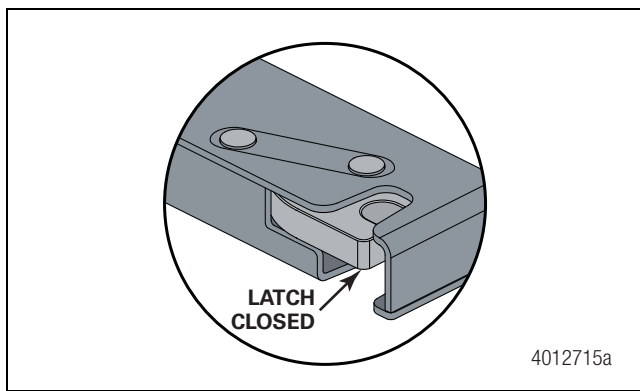

Figure 10
2. Ensure there is adequate clearance for the Rear Aero Auto Deployment panels, if installed. Ensure that the latches are initially closed at the start of the test. Figure 10.